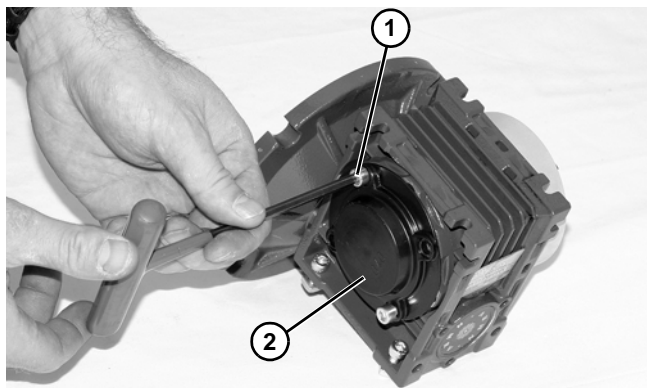

Figure 21
7. Remove two (2) screws (**Figure 21, item 1**) and detach output shaft cover (**Figure 21, item 2**).